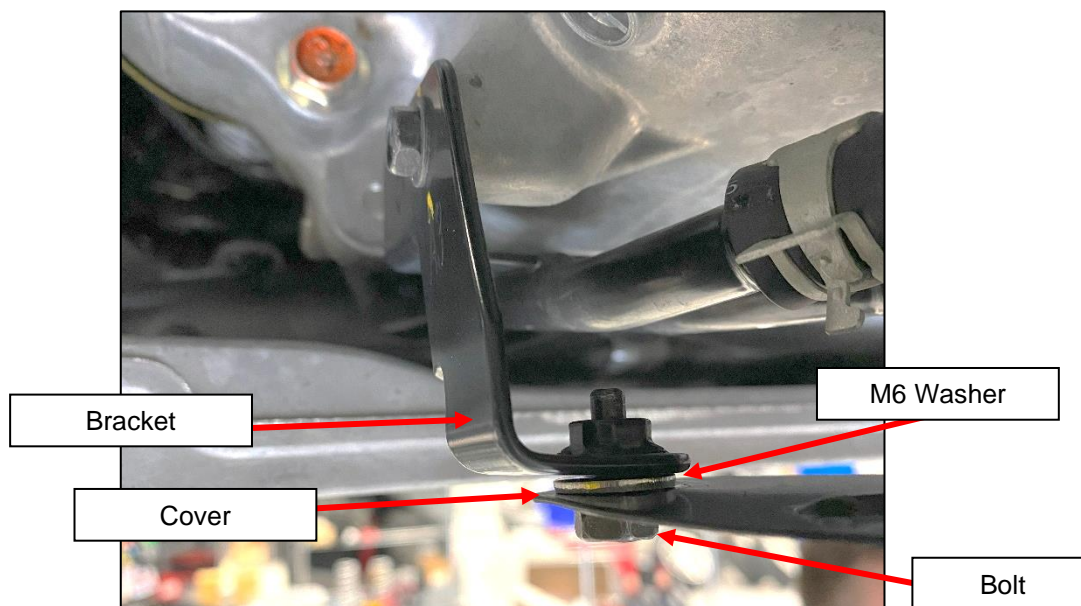

Figure 4
7. Reinstall the (5) five Rubber Grommets removed in *Step 4*.
8. Locate the (3) three M6 Washers and the remaining (3) three bolts that secured the Cover for the Coolant Lines. Position the Washers above the Cover and below the Bracket, and secure the bracket back onto the car with the (3) three bolts. *Figure 4*.